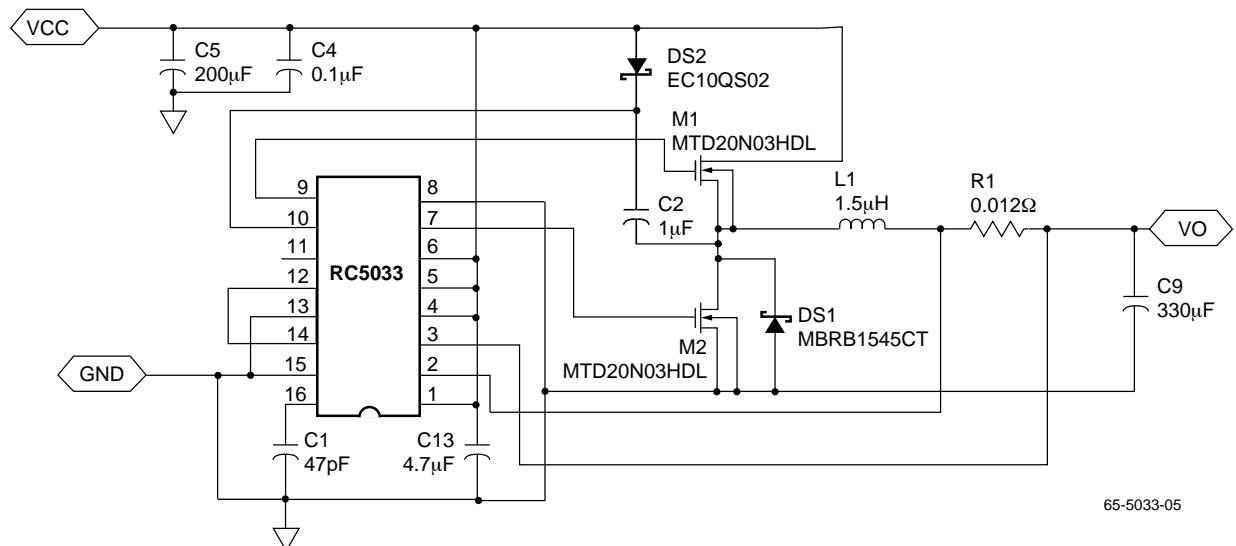
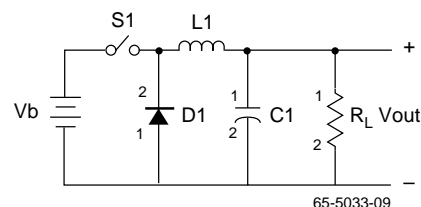

Figure 1. Standard 7A Application Schematic
Figure 5. Simple Buck DC-DC Converter
1. Data taken with circuit of Figure 1.
The circuit shown in Figure 1 along with its components and values has been designed as representative of the typical application involving the RC5033 for a Pentium™ CPU. Use of the standard application circuit will deliver the performance curves shown under the Typical Operating Characteristics section of the data sheet. Many users will want to develop their own DC-DC converter solution that is uniquely tailored to a specific application requirement. In that case, the users should review the detailed information in the Design Procedure and Applications Information section of the data sheet.
The RC5033 contains two identical high current output drivers. These drivers contain high speed bipolar transistors configured in a push-pull configuration. Each output driver is capable of pumping out 1A of current in less than 100ns. Each driver's power and ground are separated from the overall chip power and ground for added switching noise immunity. The HIDRV driver has a power supply, VCCQP, which can be either derived from an external voltage source or can be boot-strapped from a flying-capacitor as is shown in Figure 1. In the boot-strapped mode, C2 is alternately charged from VCC via the schottky diode DS2 and then boosted up when M1 is turned on. This provides a VCCQP voltage equal to  $2 \cdot V_{CC} - V_{ds}(DS2)$ ; or about 9.5V with  $V_{CC}=5V$ . This voltage is sufficient to provide the 9V gate drive to the external MOSFET that will be needed for achieving a low  $R_{ds(on)}$ . Since the low side synchronous FET is referenced to ground, there is no need to boost the gate drive voltage and its VCCP power pin can just be tied to VCC.
Figure 4 shows a step-down DC-to-DC Converter with no feedback controller. The derivation of the basic step-down converter will serve as a basis for the design equations for the RC5033 in Figure 1. In Figure 5, the basic operation begins by closing the switch, S1. When S1 is closed the input voltage  $V_B$  is impressed across the inductor L1. The current flowing in the inductor is given by the following equation:  $I_L = (V_B - V_o)T_{on}/L$ ; where  $T_{on}$  is the time duration for S1 to be closed. When S1 is open, the diode will conduct the inductor current and the output current will be delivered to the load according to the equation:  $I_L = V_o(T - T_{on})/L$ ; where  $T - T_{on}$  is the time duration for S1 to be off. By solving these two equations we can arrive at the basic relationship for the output voltage of a step-down converter:  $V_o = V_B(T_{on}/T)$ .
Since the value of the sense resistor is generally in the milliohm region, care should be taken in the layout of the PCB. Trace resistance can contribute significant errors. The traces to the IFB and VFB pins of the RC5033 should be Kelvin connected to the pads of the current-sense resistor as shown in the sample layout Figure 5. To minimize the influence of noise the two traces should be run next to each other and the pins should be bypassed with a .1uF to GND as close to the device pins as possible.